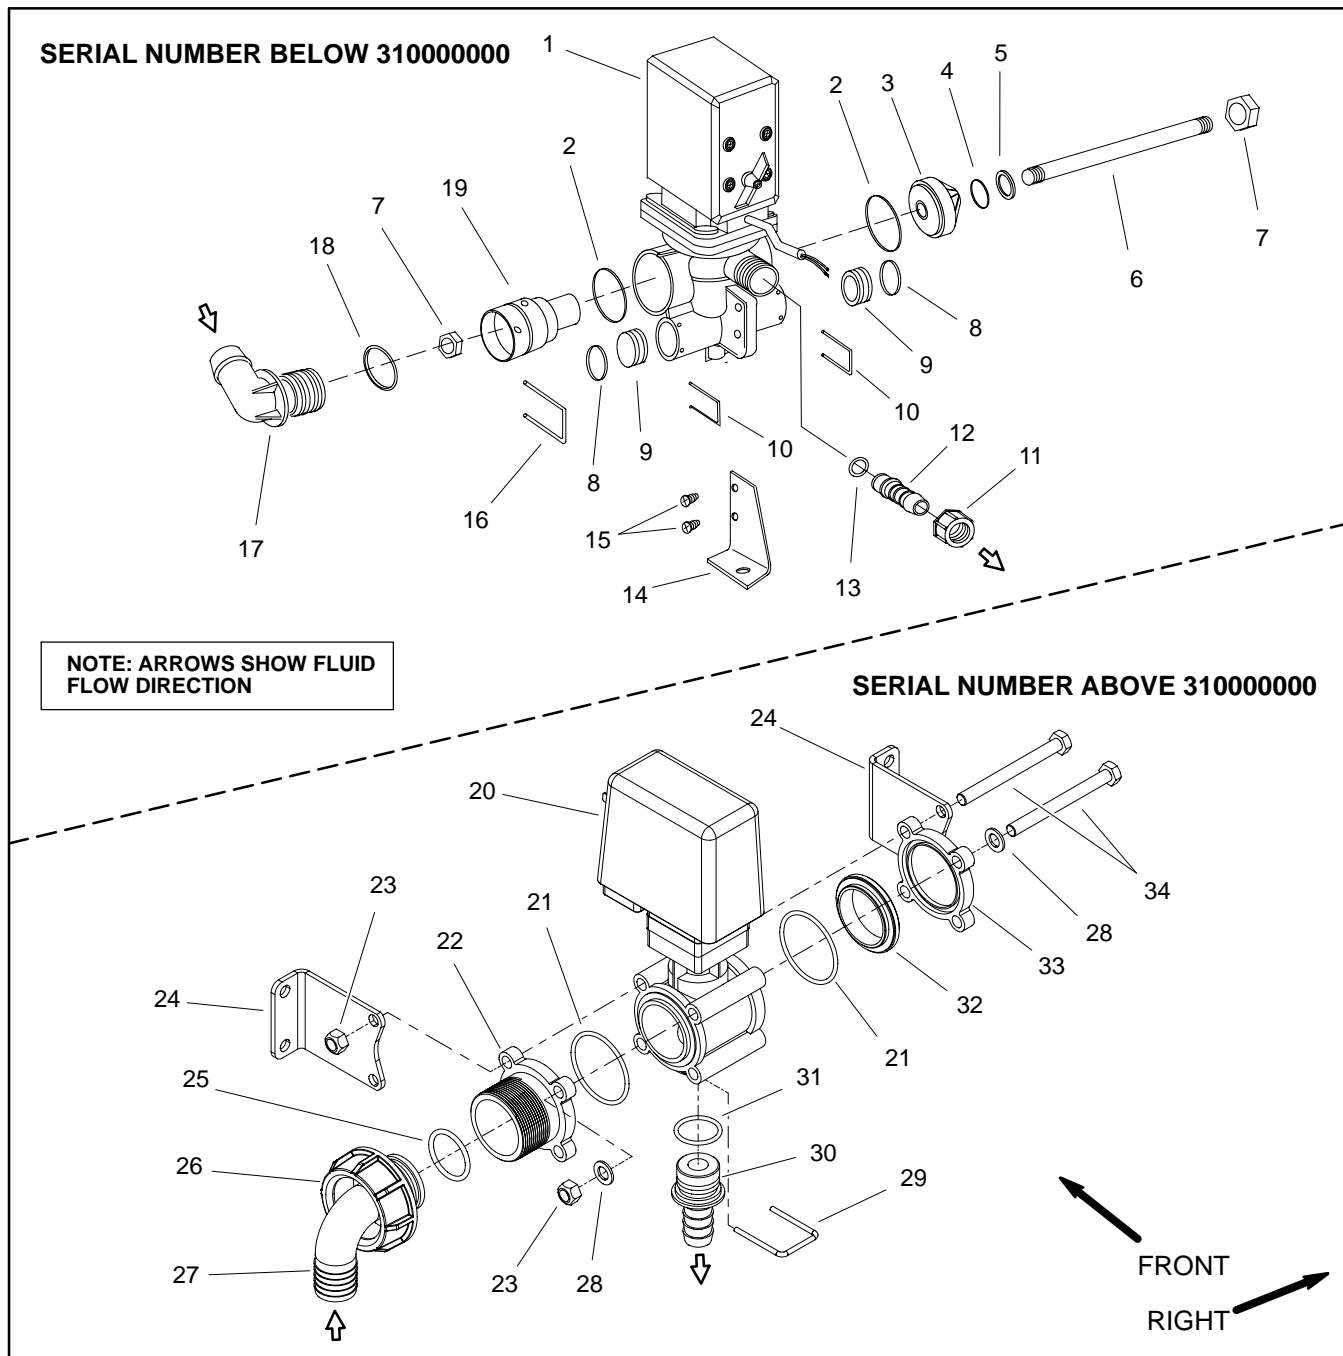

Figure 27
The agitation switch on the operator spray console is used to energize the agitation valve motor and open the valve. The open agitation valve allows system flow to reach the three (3) agitation nozzles located in the spray tank. Two (2) styles of agitation valve motors have been used on Multi Pro 5700-D machines. Both of these motor styles are shown in Figure 27.
Disassembly (Fig. 27)
2. Disassemble agitation valve motor assembly as needed using Figure 27 as a guide. Discard all removed O-rings and gaskets.
Assembly (Fig. 27)
1. Assemble agitation valve motor assembly using Figure 27 as a guide. Replace all removed O-rings.